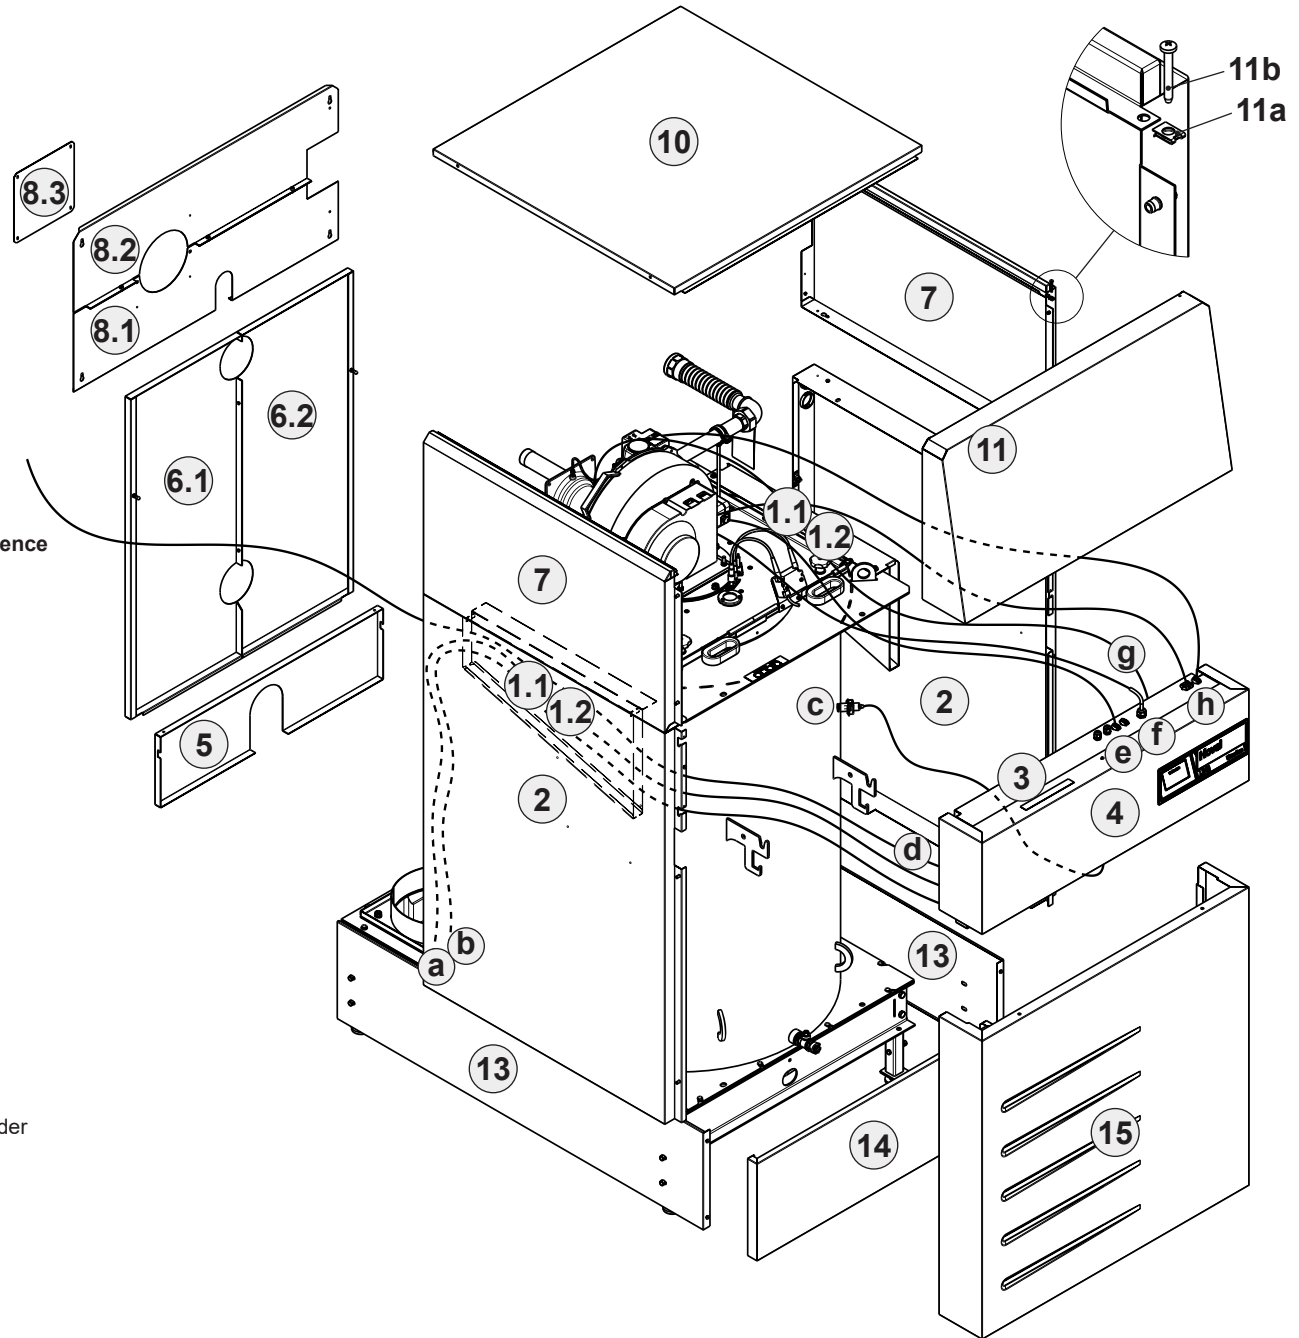
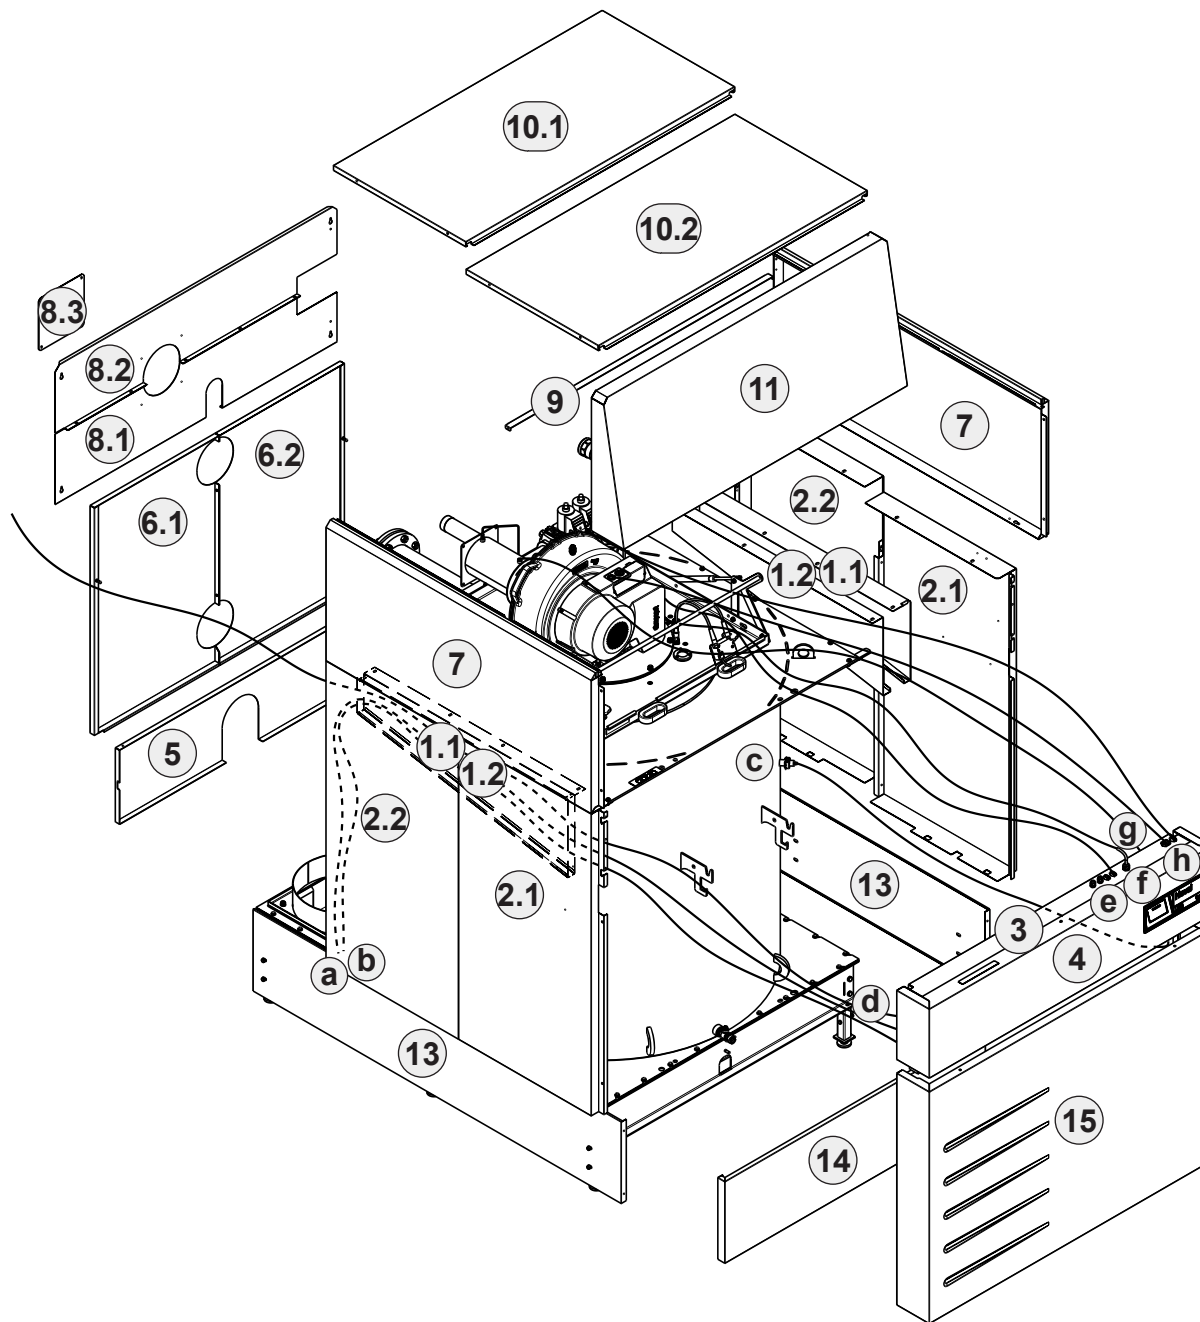

Fig. 09
Fig. 10
5. Route all cables (a-h, Fig. 09/ Fig. 10) and establish plug-in connections (wiring in accordance with Fig. 09 or Fig. 10).
14. Hang the climbing aid on the previously installed wall bracket (see Fig. 09 and Fig. 10).